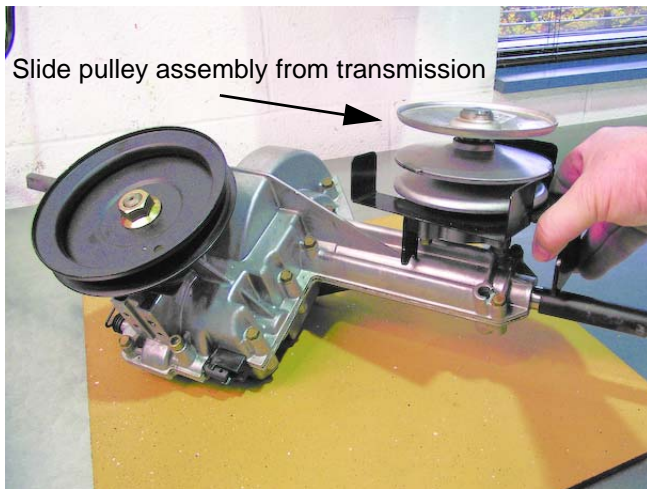

Figure 5.34
2. On the work bench you can now slide the variable speed pulley assembly from the transmission. See Figure 5.34.